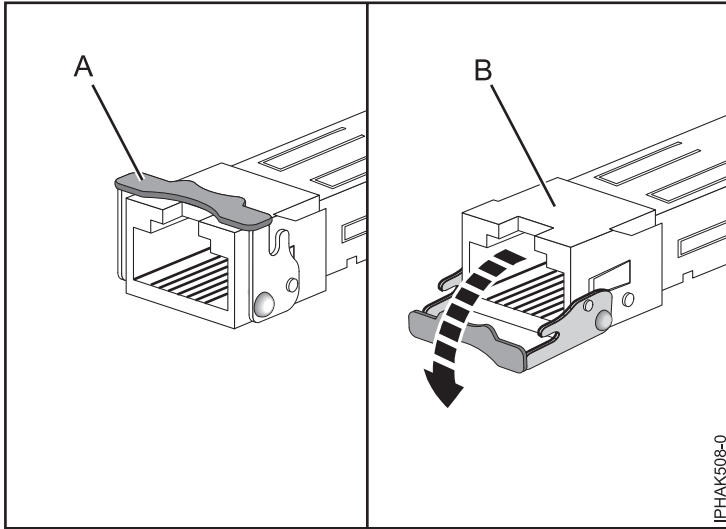

Figure 77. Removing SFP transceivers from adapters
- b. Open the latch (**A**) by rotating it down and away from the card as shown in Figure 77 on page 85.